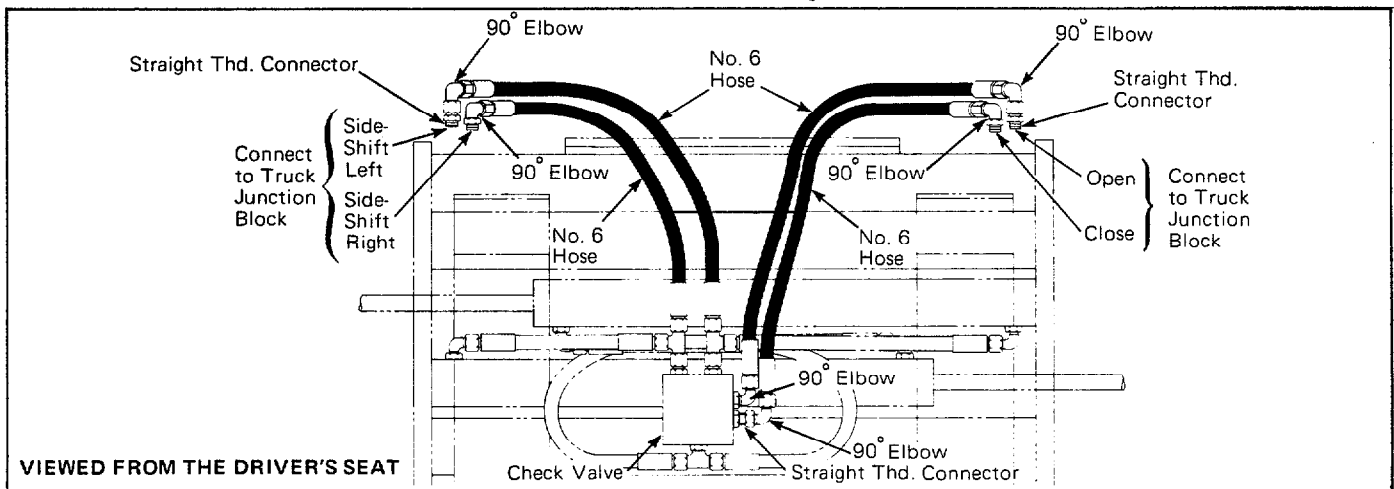

Figure 1. Plumbing Diagram for C2S Sideshifting Clamp (Installation Kit C-663531)
1. Install the hydraulic lines to the **junction block** using the correct Cascade Attachment Installation Kit (C-663531 for C2S Sideshifting Clamps; C-663532 for all other Sideshifting Clamps) OR use hoses and fittings as shown in Figures 1 and 2.
4. Connect the hoses to the check valve. See Figure 1 or 2.